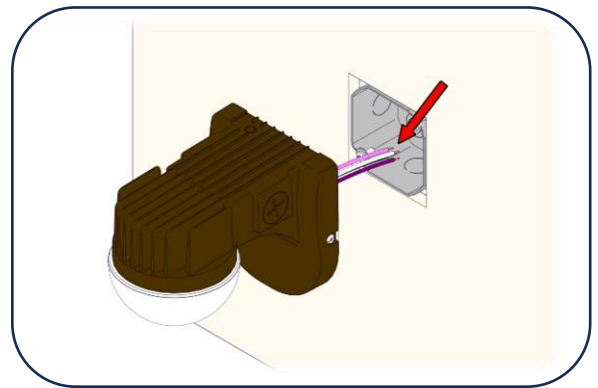

Figure 1
1. Make the wire connections to the building wiring using the included wire nuts and push the wire connections into the junction box. [Figure 1]